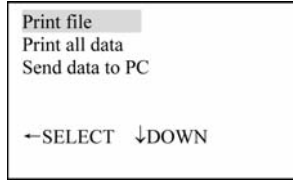

Figure 41
- i. Use  $\uparrow$  or  $\downarrow$  to move cursor to "Print file", see as figure 41.